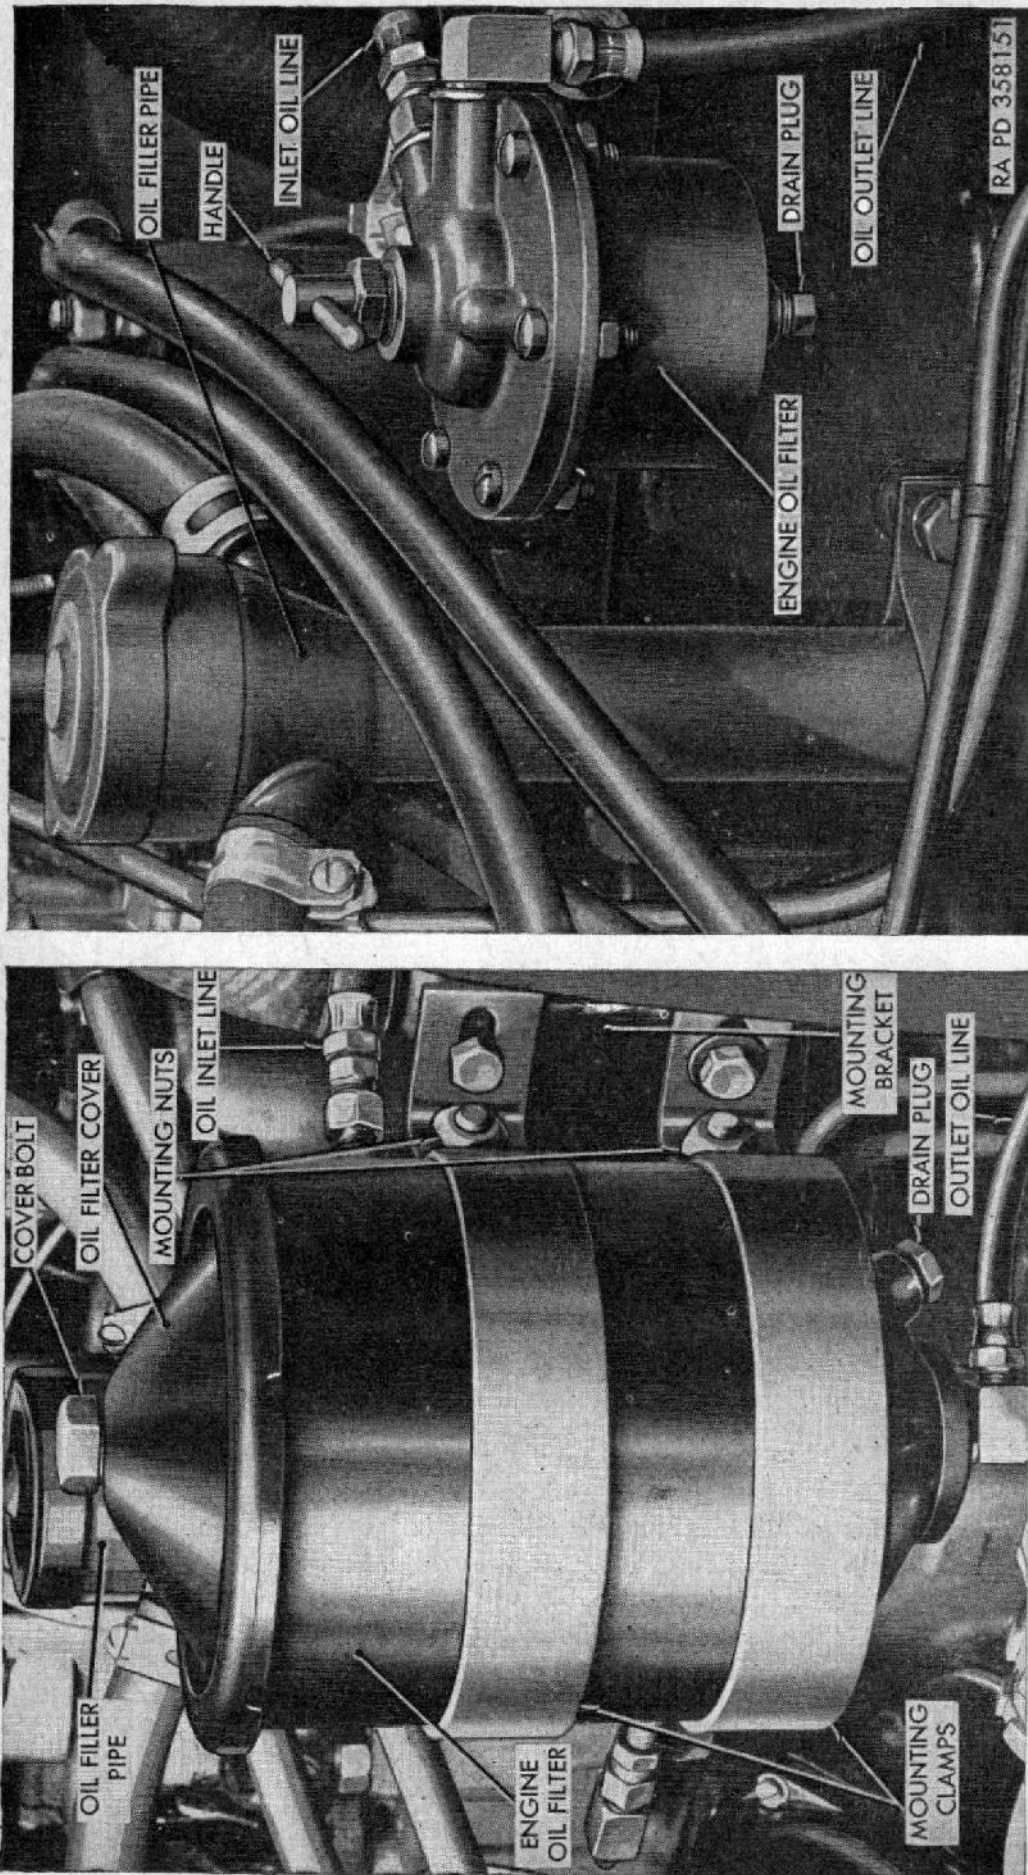
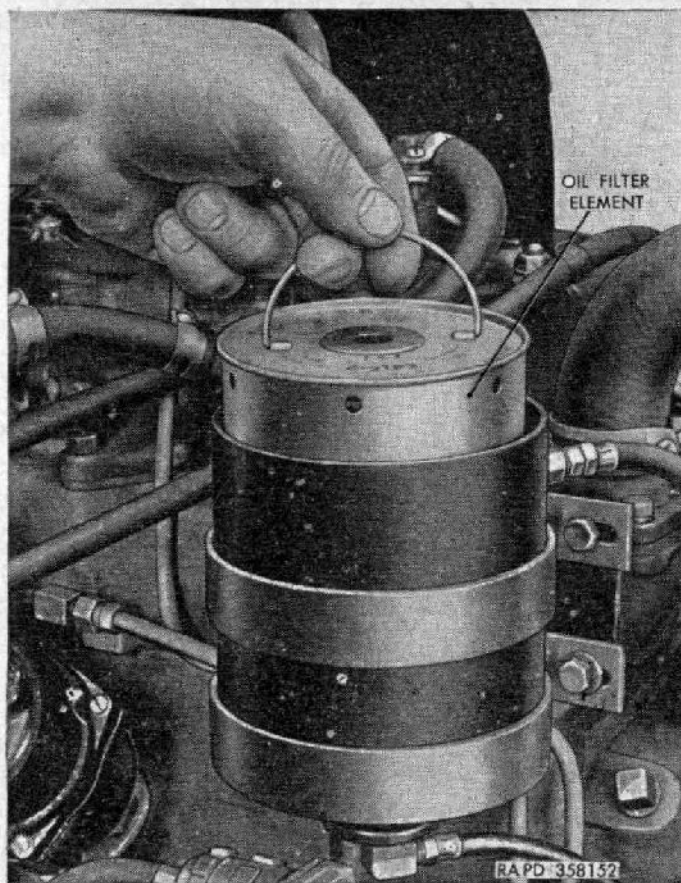

Figure 23. Engine oil filter installed.
Figure 24. Removing oil filter element.
with lock washers. Tighten all cap screws evenly to 10 to 14 pound-feet torque. Remove cover of oil filler pipe (fig. 23) and fill with proper lubricant (par. 53).
- (1) *Cuno type.* Servicing of this type engine oil filter consists of turning the handle at the top of the filter assembly and then removing the drain plug at the bottom to drain.
- (2) *Replaceable element type.* Servicing of this engine oil filter (fig. 23) consists of replacing the oil filter element (fig. 24) with a new one at scheduled lubrication periods (par. 53). Place a container under the engine oil filter, remove the drain plug (fig. 23), and allow oil to drain. Install drain plug when oil has drained. Unscrew cover bolt (fig. 23) and remove oil filter cover (fig. 23), gasket, and spring. Wipe surface of oil filter element, grasp handle on oil filter and remove oil filter element (fig. 24) from engine oil filter, and discard element. Wipe old oil and sediment from inside of oil filter. Install new oil filter element making certain it seats properly in engine oil filter. Install oil filter cover with spring and gasket and secure with cover bolt (fig. 23).
- (1) *Cuno type.*
- (2) *Replaceable element type.*
- (a) Disconnect inlet oil line (fig. 23) and outlet oil line from fittings on the engine oil filter.
- (a) Place engine oil filter (fig. 23) in mounting clamps and position engine oil filter in clamps so that oil line connections can be easily connected to the inlet and outlet oil lines. Tighten mounting nuts and bolts to secure engine oil filter.